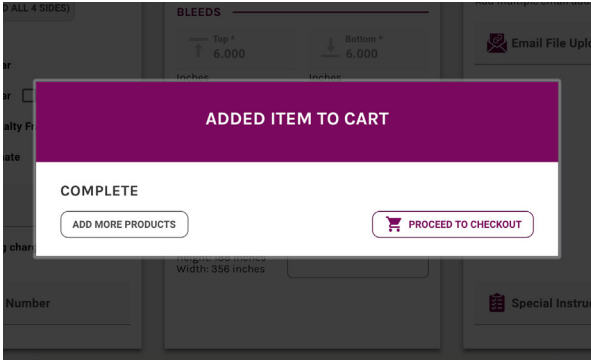

Fig. 8
5. You may either continue to add items to the cart or checkout at this time. (see Fig. 8)